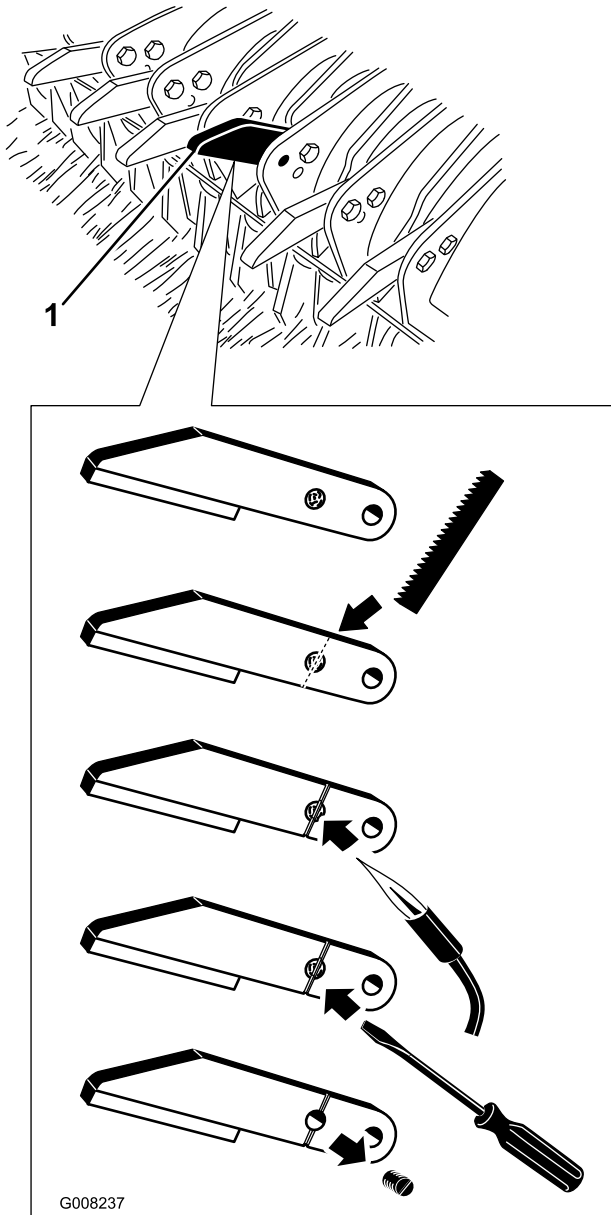

Figure 37
1. Remove the non sheared bolt securing the chopper tip to the blade (Figure 37). Remove the chopper tip from the blade.
2. Using a hack saw, cut a slot in the sheared end of the bolt and into the chopper tip (Figure 37).
4. After completing the slot, heat the sheared bolt with a torch to soften the thread locking adhesive (Figure 37).
5. Once the thread locking adhesive is softened, thread the sheared bolt out of chopper tip (Figure 37).